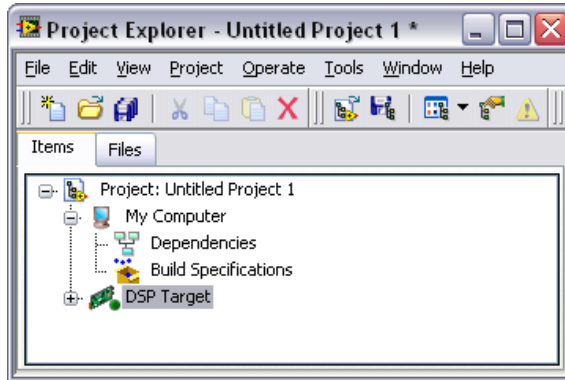

Figure 9. Renaming the Target in the Project
2. Enter DSP Target in the text box and press the <Enter> key to change the name of the target, as shown in Figure 9.